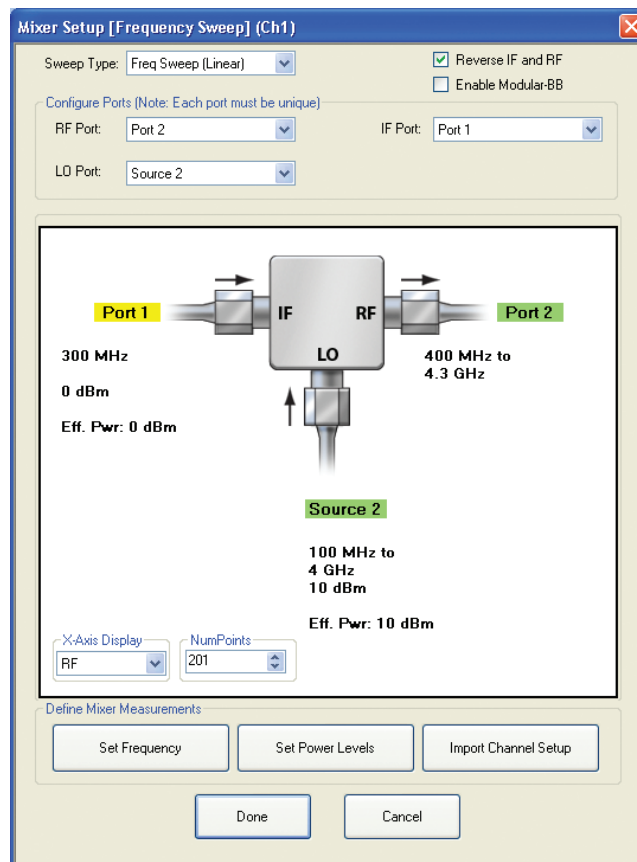

Figure 5: Mixer Setup (Active Channel) Configuration Window
2. Configure measurement as shown in Figure 5.